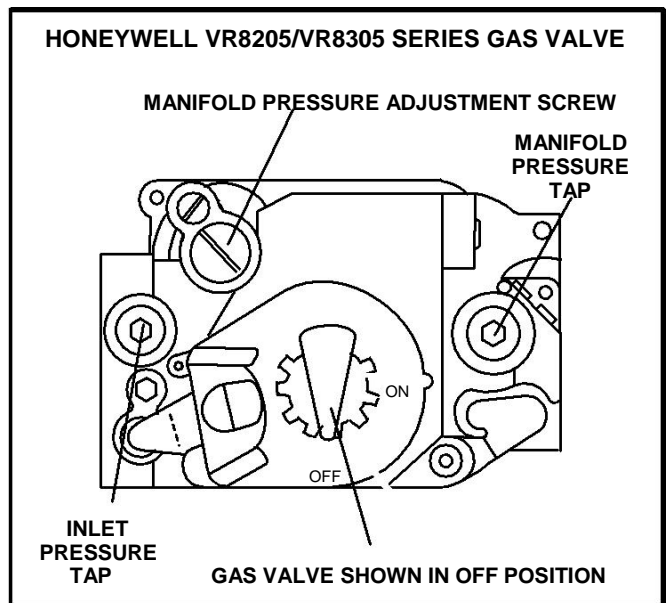
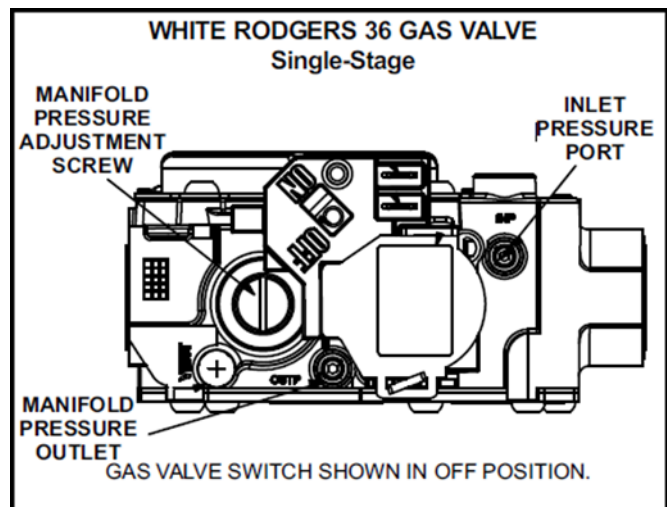

FIGURE 8
FIGURE 9
GAS VALVE OPERATION FOR HONEYWELL VR8205/VR8305 SERIES GAS VALVE (FIG 8) AND WHITE RODGERS 36 SERIES GAS VALVE (FIG 9)
- 2 - After line pressure has been checked and adjusted, check regulator pressure. Adjust manifold pressure to values specified on the unit rating plate. See figures 8, 9, and 10 for gas pressure adjustment screw location. A natural gas to LP/propane gas changeover kit is required to convert unit in the field. Refer to installation instructions provided with changeover kit for conversion procedure.